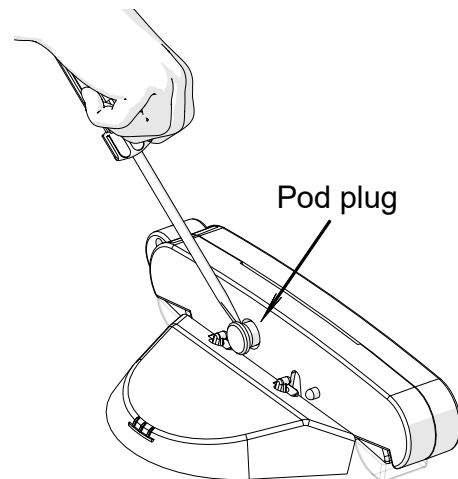

Fig. 18
1. Using a screwdriver, remove the plugs from the pod (see Fig. 18).